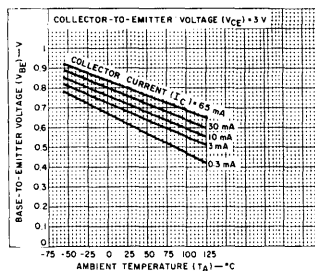

Fig. 3 - Base-to-emitter voltage vs. ambient temperature for n-p-n transistors Q3 & Q5.
1. Composite p-n-p/n-p-n Transistors Q3, Q4 (See Fig. 3)